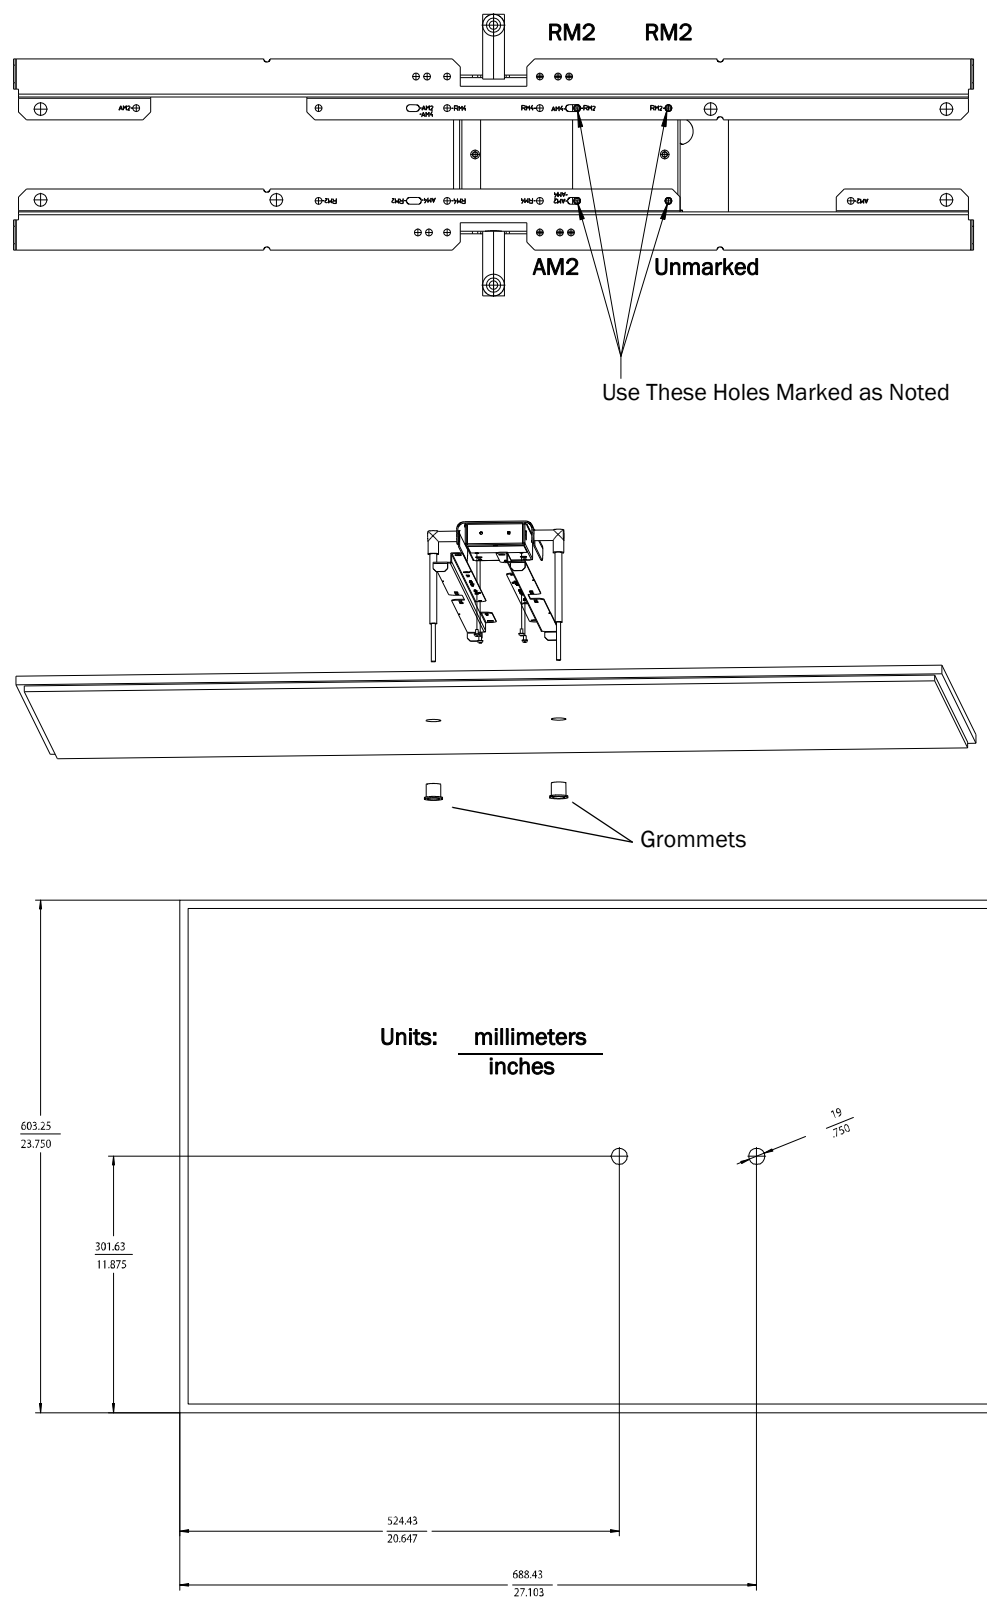
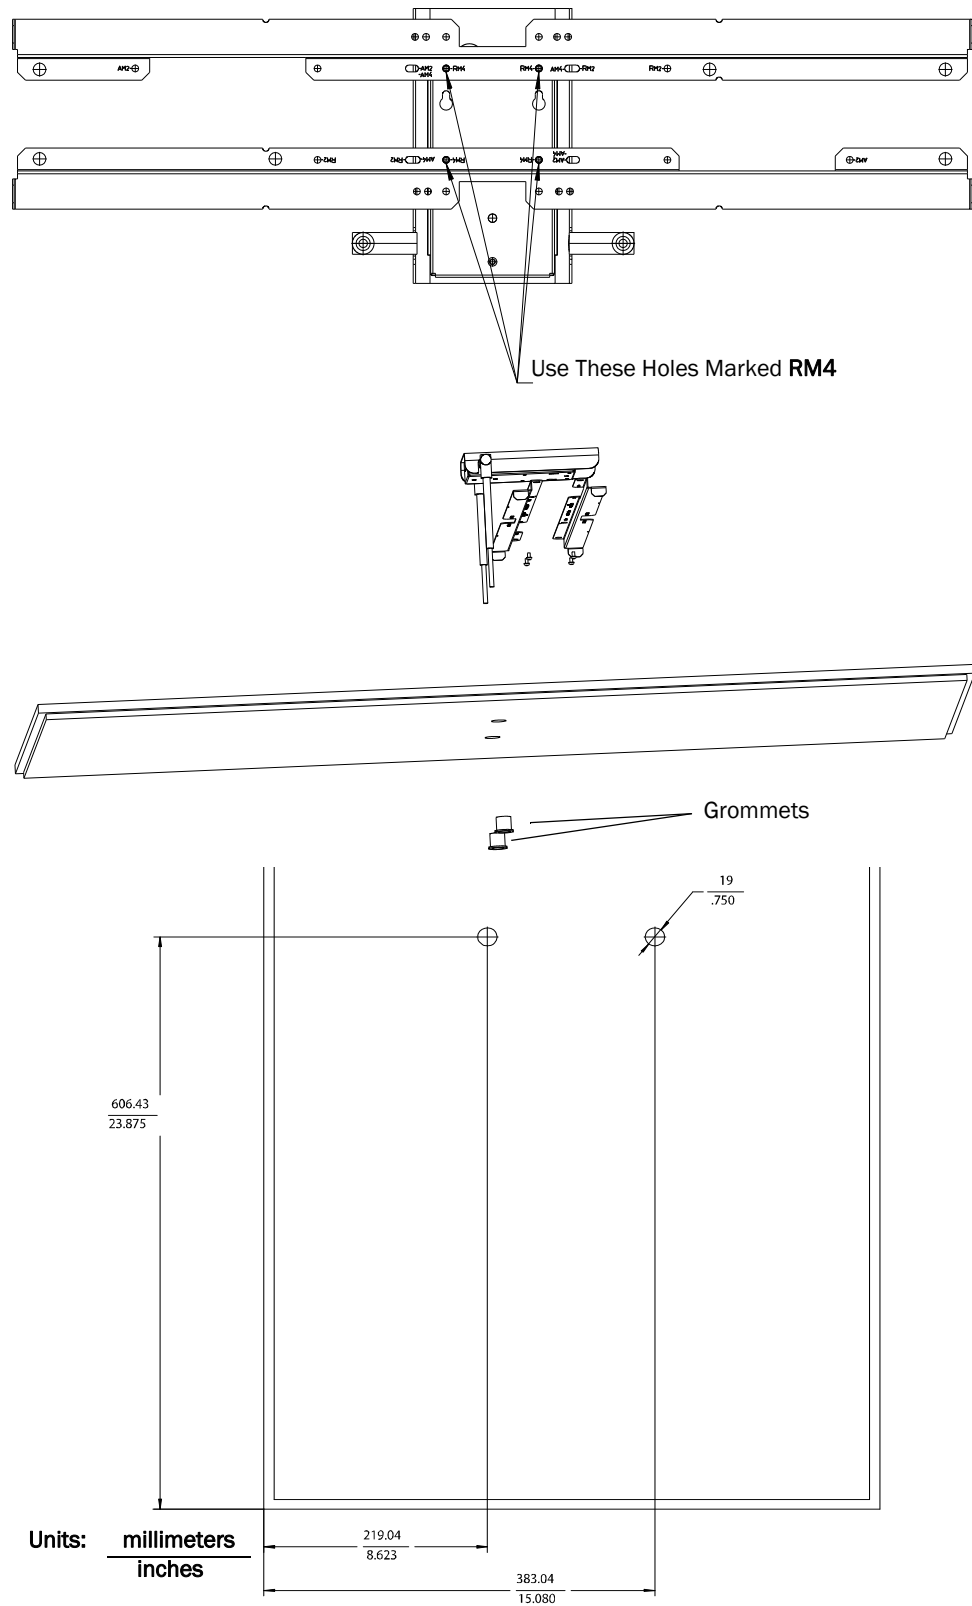
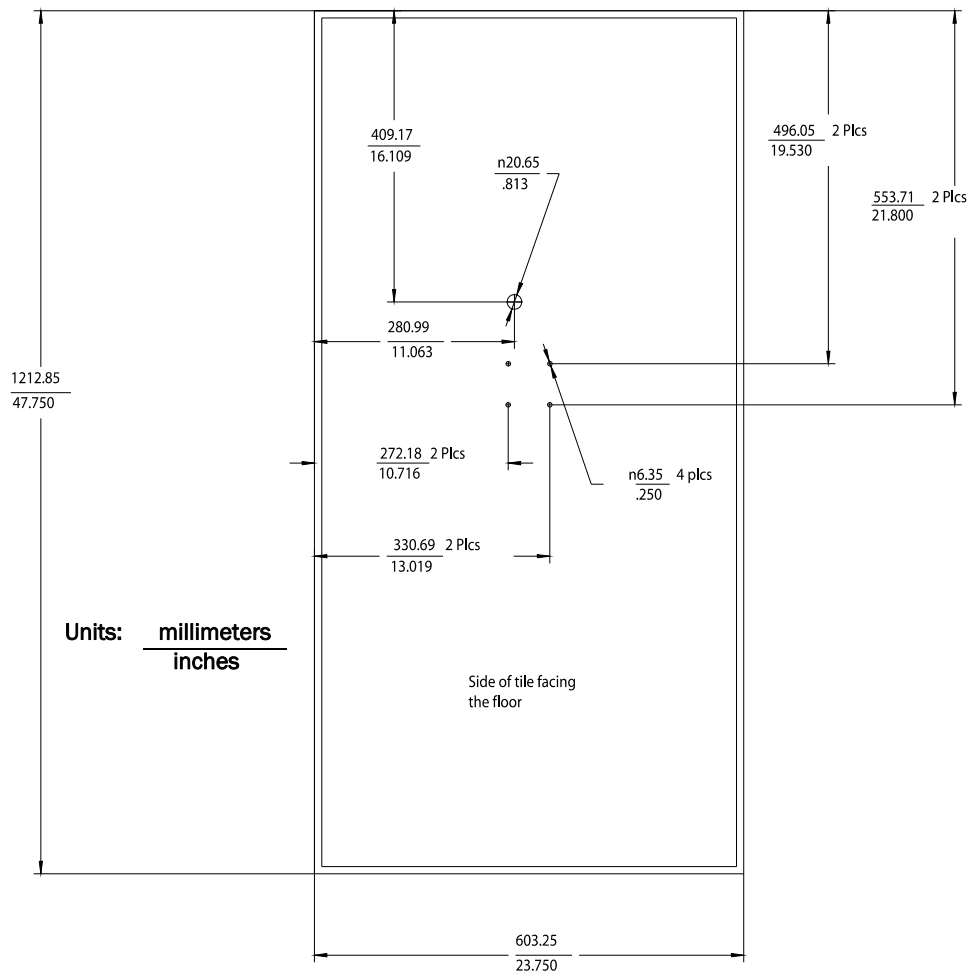

Figure 2-14: Possible Above the Ceiling Remote Antenna Mounting Position
Figure 2-15: Alternative Above the Ceiling Remote Antenna Mounting Position
Figure 2-16: RA Below Ceiling Tile Hole Locations and Dimensions
The RA chassis can be rotated 90 degrees to the mounting rails. Choose the best placement of the RA to facilitate where the antennas will go through the ceiling tile. Note that there are two holes in the RA chassis to allow for tethering to other permanent structures where local building codes require this type of installation. Refer to Figure 2-14 or Figure 2-15 for the dimensions to locate the antenna holes in the ceiling tile.
6. Secure the mounting rails to the RA. Insert the four (4) M3 X 0.5 (8 mm LG) screws into the RA mounting rail holes, and into the mating holes in the back of the RA chassis as shown in Figure 2-15 or Figure 2-16. Torque-tighten each screw to 8-inch lbs.
Also, the RA chassis can be rotated 90 degrees. Choose the best placement of the RA to facilitate where the antennas will go through the ceiling tile. Refer to Figure 2-14 or Figure 2-15 for the dimensions to locate the antenna holes in the ceiling tile.
3. Refer to Figure 2-16 for all dimensions and hole locations. Place the mounting rails across the tile (underside of tile). For ceiling tiles that are smaller than standard 2' x 4' size ceiling tile, the mounting rails can be cut down in length at the u-shaped cutouts.